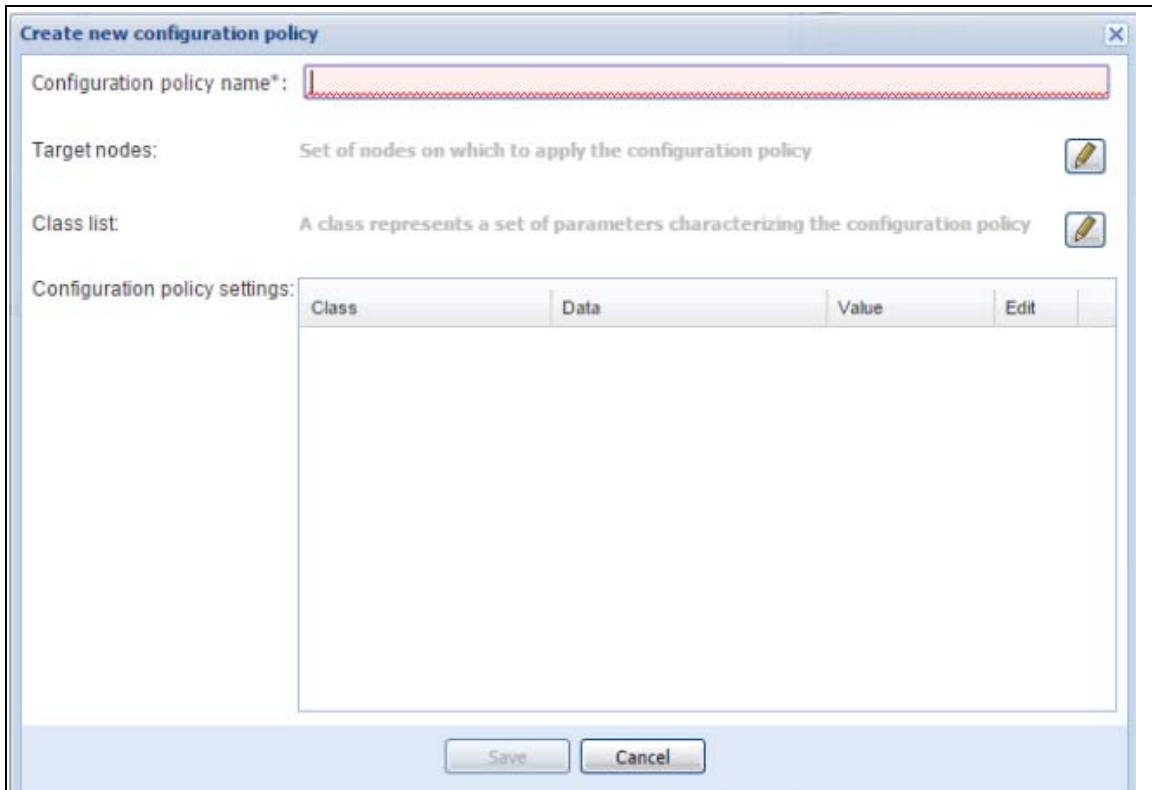

Figure 234. Create New Configuration Policy
2. In the right Selection view panel, click Create new configuration policy. The Create new configuration policy dialog displays (see Figure 234).